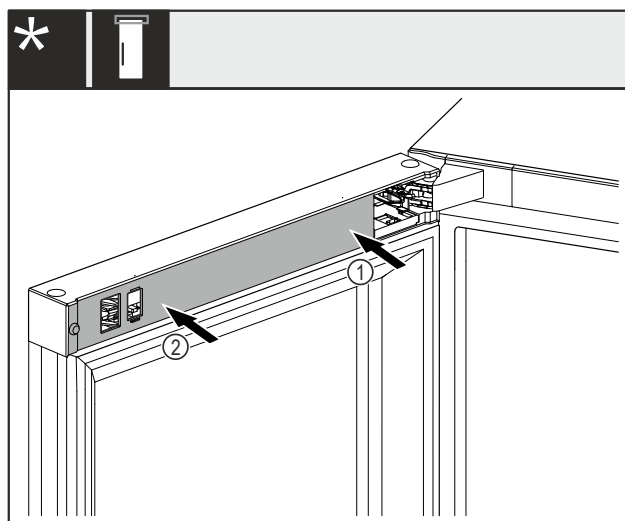

Fig. 48 *
- Place the cover Fig. 48 (1) on the bearing bracket side first and snap into place.*
- Fit the cover Fig. 48 (2) on the outside and snap into place.*